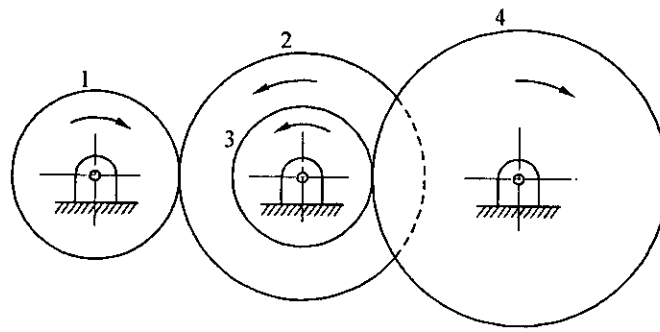

Fig. 7.3
**Compound gear train :** A compound gear train is one in which each shaft carries two or more gears and are keyed to it. Fig. 7.3 represents a compound gear train in which gears 2 and 3 constitute compound gear.